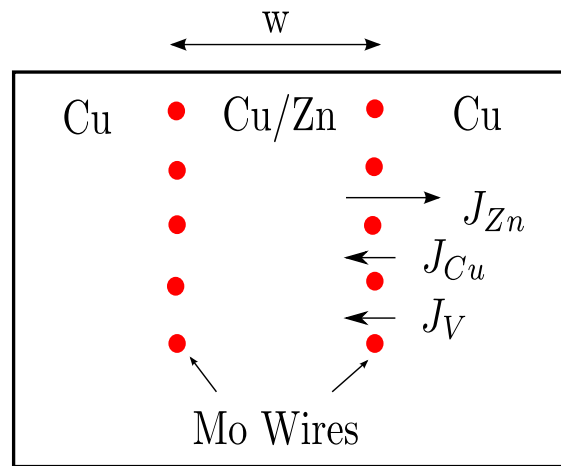

Figure 1: Experimental Geometry for the Kirkendall experiment.
- A diffusion couple including inert wires was made by plating pure copper on to a block of α -brass with $X_{Zn} = 0.3$, as shown in Figure 1. After 56 days at 785 °C the marker velocity was 2.6×10^{-8} mm/s, with a composition at the markers of $X_{Zn} = 0.22$, and a composition gradient, $\partial X_{Zn} / \partial x$ of 0.089 mm^{-1} . A detailed analysis of the data gives $\bar{D} = 4.5 \times 10^{-13} \text{ m}^2/\text{s}$ for $X_{Zn} = 0.22$. Use these data to calculate D_{Zn} and D_{Cu} for $X_{Zn} = 0.22$. How would you expect D_{Zn} , D_{Cu} and \bar{D} to vary as a function of composition?